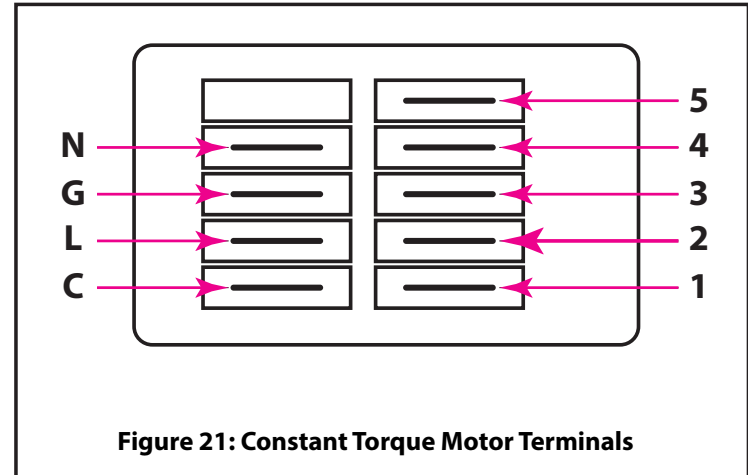

Figure 21: Constant Torque Motor Terminals
3. Locate the BLACK and RED wires connected to two of the 1–5 speed tap terminals on the motor terminal block (See Figure 21).